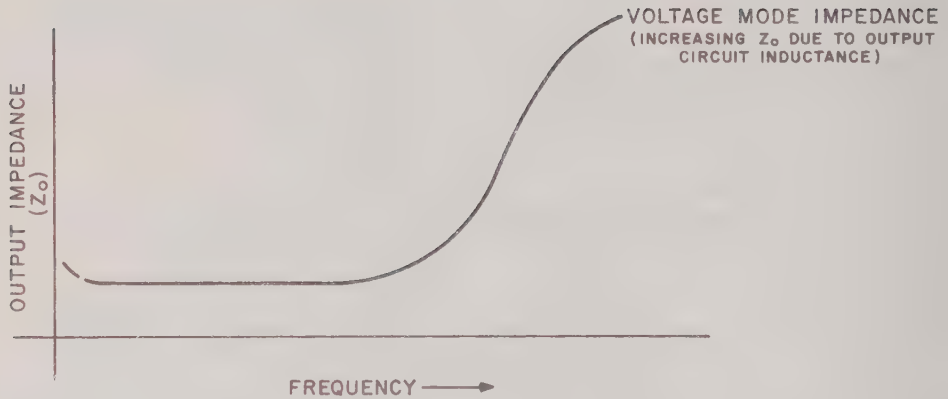

FIG. 3-1 TYPICAL OUTPUT IMPEDANCE VS. FREQUENCY
- 3-13 The stabilized d-c power supply is definitely not an ideal voltage or current source with zero output impedance (VOLTAGE MODE) at all frequencies. All voltage sources have some amount of impedance which increases with frequency. (Refer to FIG. 3-1.) A more realistic model for a voltage stabilized power supply must, for example, include a series resistance, representing the small d-c and low frequency source impedance, in series with an inductance, representing the source impedance at higher frequencies.